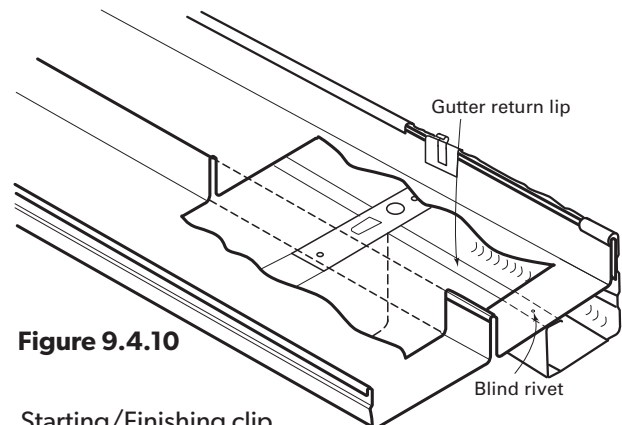

Figure 9.4.10
- 5 Position the first sheet by locating the female rib under the tab on the upstand of the starting/finishing clips after locating the sheet longitudinally for gutter overhang etc. Then secure the sheet by folding the pre-bent clip upstands down over the female rib. (Figure 9.4.10)